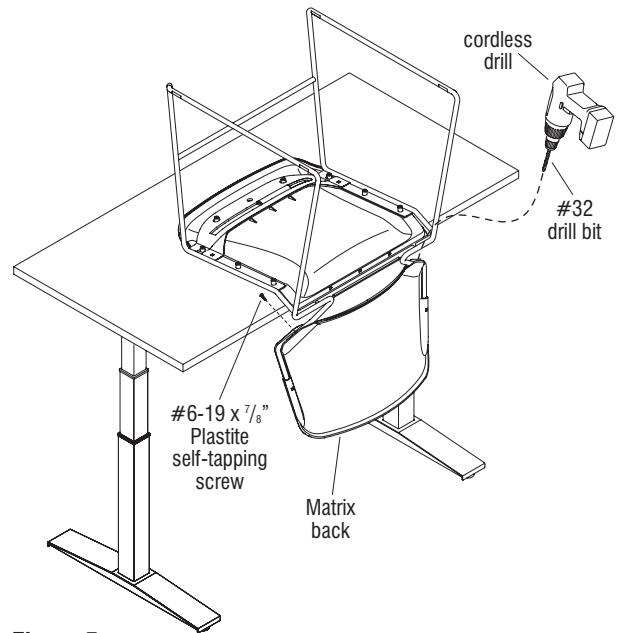

Figure 5
7. Place the Matrix chair upside down with the seat portion resting on a sturdy surface (table). Verify you are using the correct screw (#12.0695.PLAS) for a #32 pilot hole. With the Matrix back held firmly against the wire frame, drill one pilot hole at each side, approximately  $\frac{1}{2}$ " deep in the Matrix back using the existing frame holes as your guide. Make sure the pilot holes do not break through the front or rear surface of the back (Figure 5).
8. Insert two #6-19 x  $\frac{7}{8}$ " Plastite self-tapping screws through the holes in the frame and into the pilot holes in the Matrix back, making sure the screws do not break through the front or rear surface of the back and that there are no visible stress marks associated with inserting the screws (Figure 5).